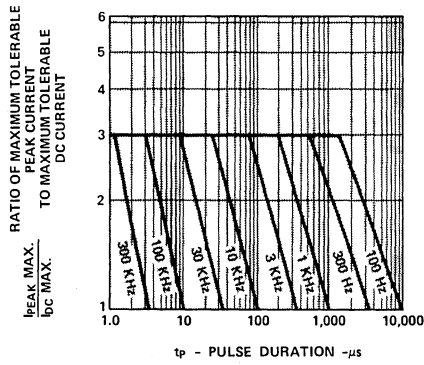

Figure 3. Maximum Tolerable Peak Current vs. Pulse Duration. ($I_{DC\ MAX}$ as per MAX Ratings.)
- See Figure 3 to establish pulsed operating conditions.